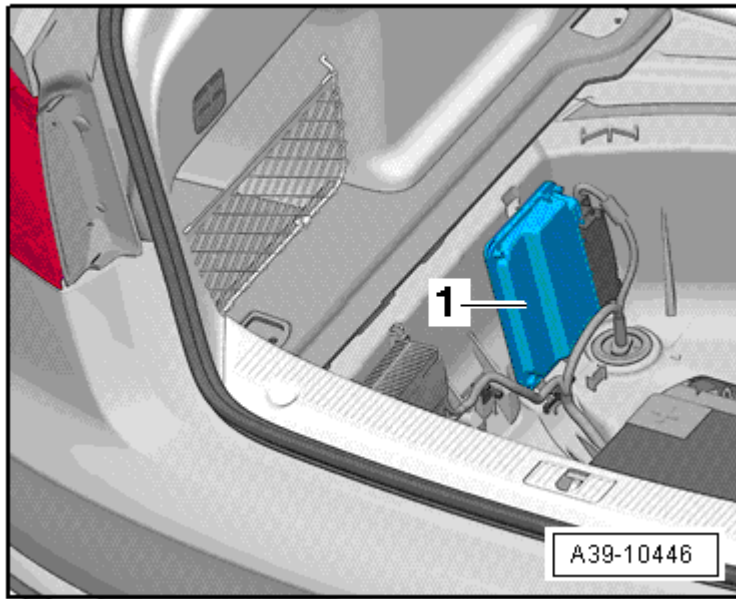

Fig. 36: All Wheel Drive (AWD) Control Module -J492- in the Audi A8
- Installed location on the A8, refer to **Fig. 36**